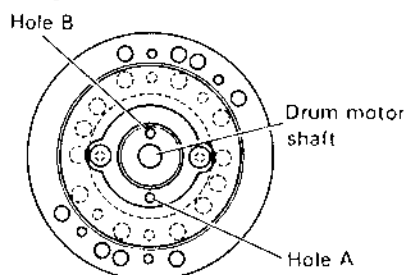

Fig. 1-2-2 Polarity of the upper drum
**Note:** Be sure to position the upper drum correctly. As indicated in Fig. 1-2-2, set hole A of the upper drum opposite the shaft from hole B of the lower drum. Check for correct position before tightening the screws.